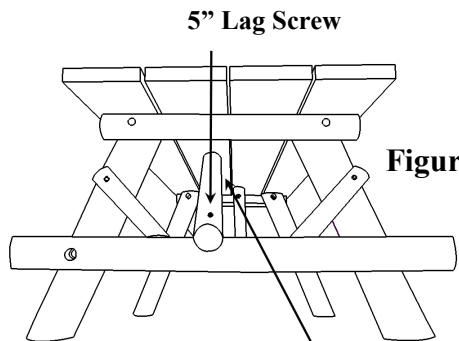

Figure 8
STEP 7 Attach the other end of the table brace to center of bench rail with the 5" Hew Washer Head Screw as shown in **Figure 8**.